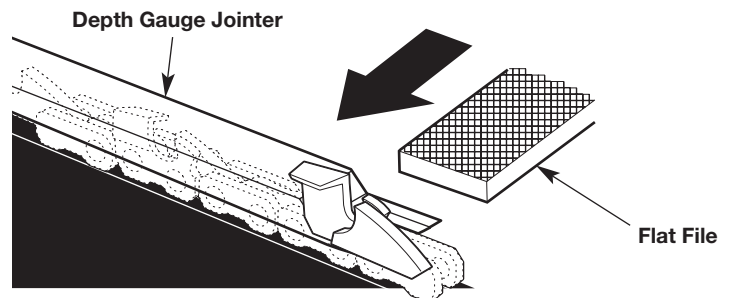

Fig. 42
3. Use a depth gauge tool (not included) to measure the depth gauge clearance (Fig. 42) of each cutter. The depth gauge clearance must be maintained at 1/32 inch (0.6 mm). The depth gauge clearance determines the depth at which the cutter enters the wood during operation and the size of the wood chips produced. Too much clearance increases the chance of kickback. Too little clearance decreases the size of the wood chips, thus decreasing the ability to cut.
- Use a 0.025 inch (0.635 mm) depth gauge jointer and a flat file (tools not included) to lower the depth gauge to the correct clearance (Fig. 42).